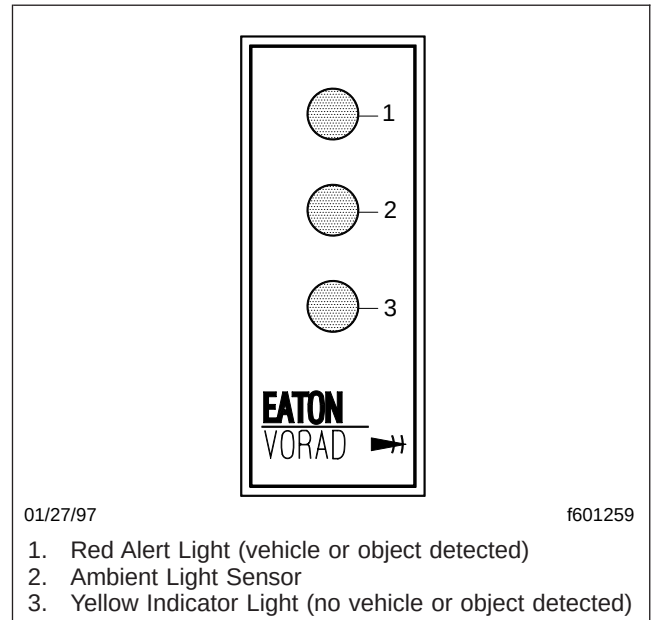

Fig. 2.46, Side Sensor Display (EVT-300)
1. The yellow indicator light illuminates continuously when no vehicle is detected by the side sensor(s). See Fig. 2.46.